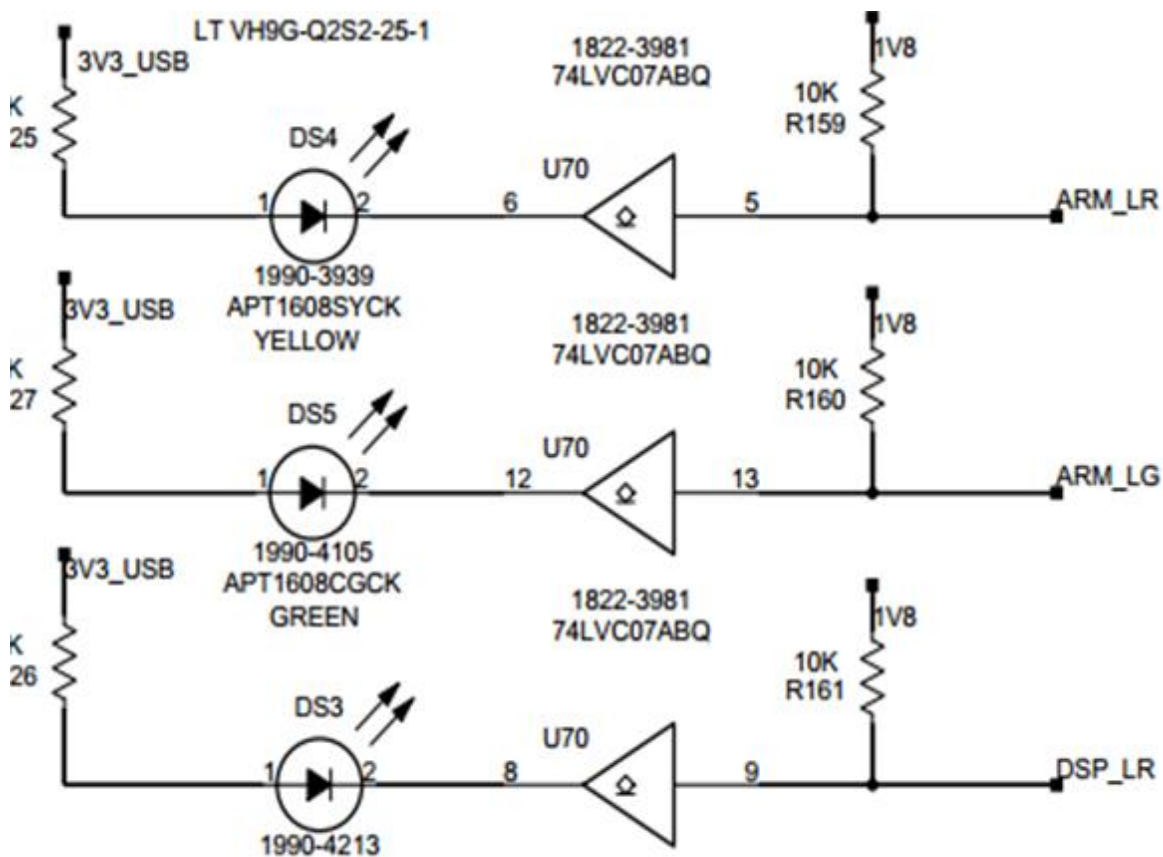

Figure 5.1: Printed Circuit Board designed for latest iPhone 6G Series
5. A PCB Design and Validation Engineer would like to evaluate LED from OSRAM (O) and Lumileds (X) on the designed Printed Circuit Board for latest iPhone 6G Series as in Figure 5.1. The engineer had sampled 36 pieces of LEDs each and ran experiment with both suppliers' LEDs on the PCB Layout.